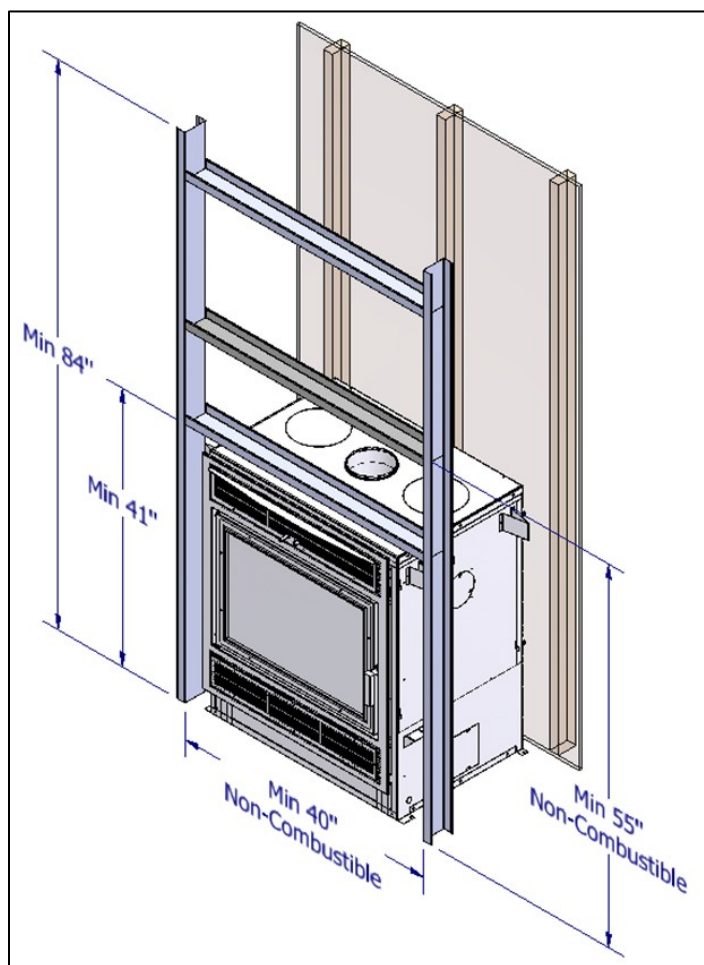
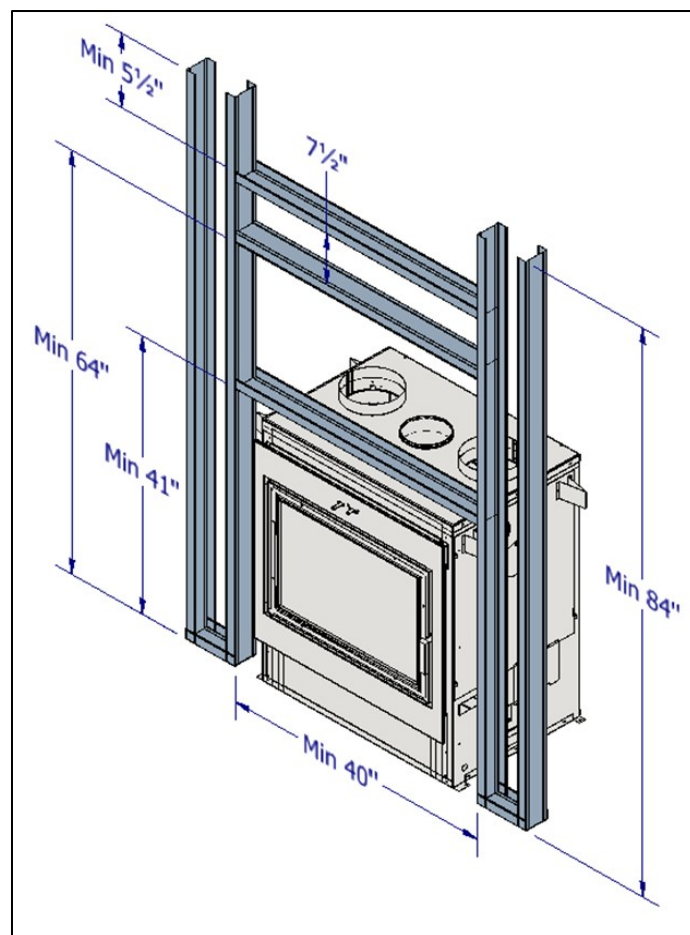

Figure 3-10: Minimum Elegance 40 Framing Dimensions
Figure 3-11: Minimum Framing Dimensions for Single Linear Front Louver Gravity Kit Installations
The Elegance 40 can be placed directly onto or against normal, combustible construction materials such as lumber, plywood, millboard, particleboard, drywall and decorative wood paneling. The fireplace should NOT be placed directly against or be in contact with an insulation material. A portion of the framing on the face of the chase must be constructed with nominal 2" x 3" or 2" x 4" metal studs and the remainder can be constructed with nominal 2" x 3" or 2" x 4" lumber. Refer to Figure 3-10 for an example of a framing design and Figure 3-11 for the framing for installations of the single linear front louver gravity kit. The framing must be nailed or screwed onto the floor and to the ceiling.
**CAUTION:** Respect the framing design outlined in Figure 3-10 as well as the chimney manufacturer's clearances to combustibles.
Refer to Figure 3-10 for minimum non-combustible framing dimensions